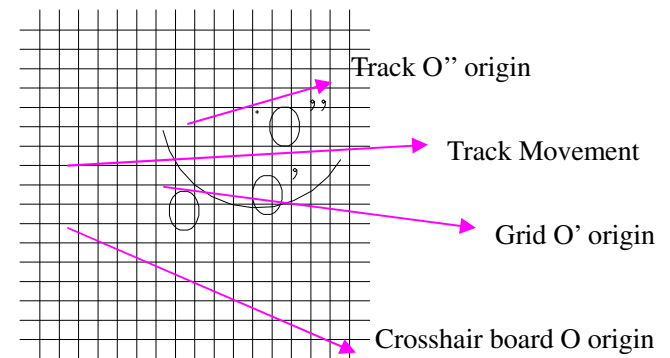

Figure 1-1
4. Pull on both multiple prism stand (Part 2&4) to inspect the track to half circle (Fig.1-1).
8. Move (Part 6&7) from the base of (Part 2&4), until the (O) and (O'') are superimposed.
9. Adjusted (Part 2&4) before the (O) on the crosshair board change.